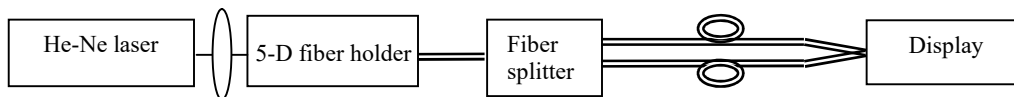

Figure 14 Schematic of optical fiber beam splitter
- 1) Referring to Figure 14, prepare the 1 m optical fiber, then couple the laser into the end of the 1 m single-mode fiber through the collimating lens. The FC/PC end can be placed in the fiber clamp facing the white screen until optimum coupling is achieved.